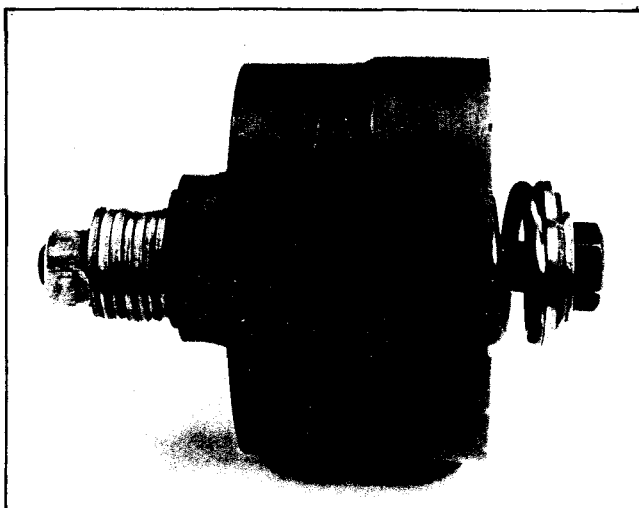

Figure 6. Cylinder Block Subassembly Disassembly Tool. (Tighten nut, remove snap ring, loosen nut to relieve spring tension.)
- A cylinder block spring decompression tool. (See Figure 6.)